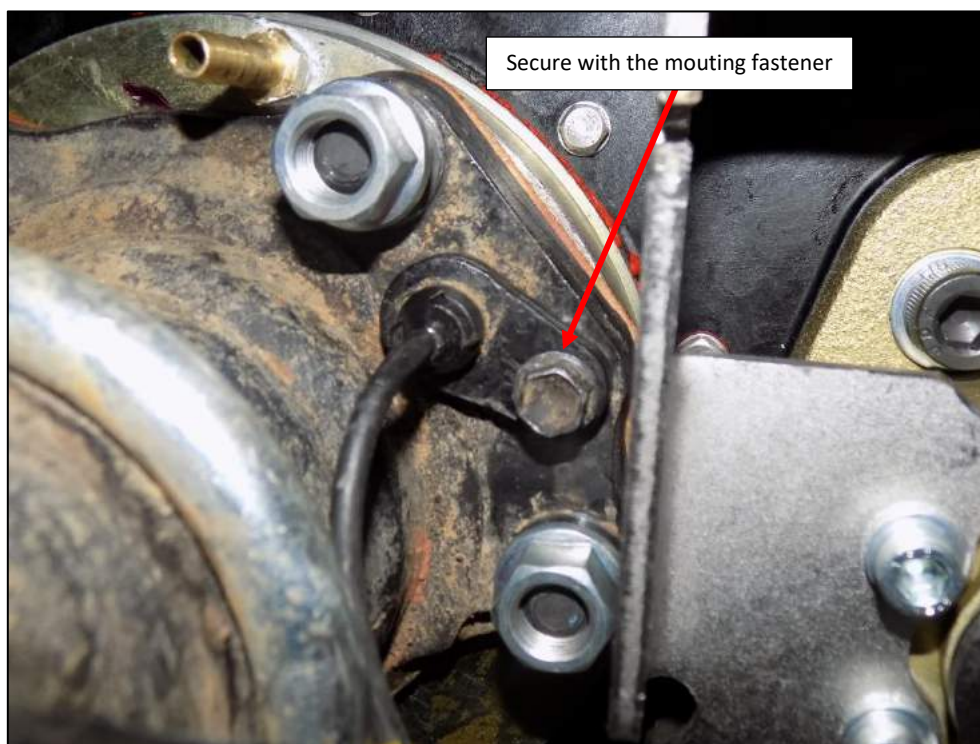

Figure 10
21. **[ABS equipped vehicles only]**. Secure the ABS sensor using the OEM fastener (Figure 10).